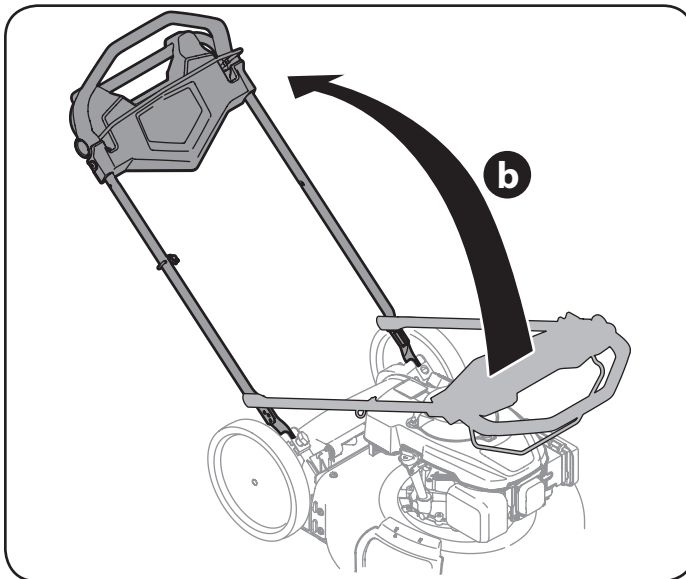
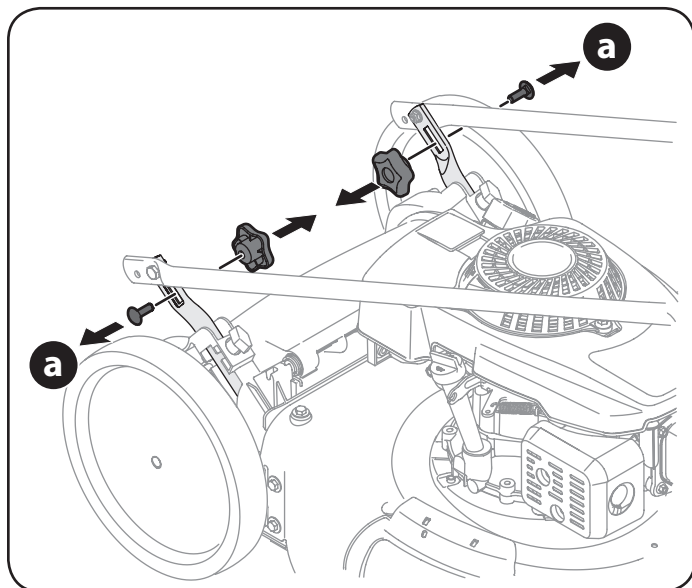

Figure 2
Figure 1
3. Align either side of the slope gauge with the object (See Figure 1 and Figure 2).
4. Adjust gauge up or down until the left corner touches the slope (See Figure 1 and Figure 2).
5. If there is a gap below the gauge, the slope is too steep for safe operation (See Figure 2 above).
- a. Remove wing nuts and carriage bolts handle as shown in Figure 1. Do not loosen or remove adjacent hex head screws.
- b. While stabilizing mower so it doesn't move, pivot upper handle up as shown in Figure 2. Do not crimp cable while lifting the handle up.